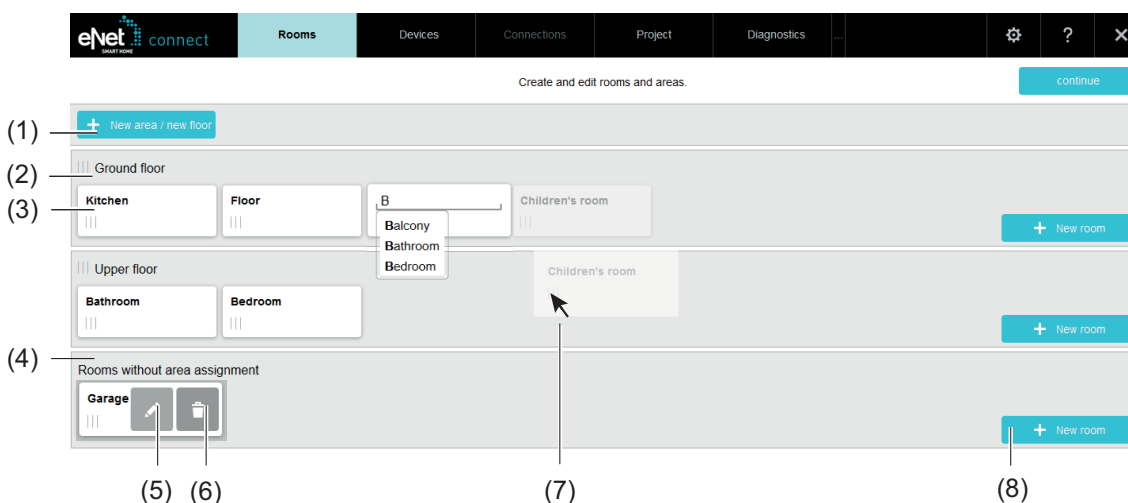

Figure 8: Rooms view - Example
The building structure is created through the creation of areas and floors (1) and the rooms (8) (Figure 8).
The building structure can be changed later on. Areas, floors and rooms can be renamed or deleted. The functions become visible when the cursor is moved over a graphical element, e.g. room, (5) and (6). Areas, floors and rooms can also be moved by drag & drop (Figure 8) (7).